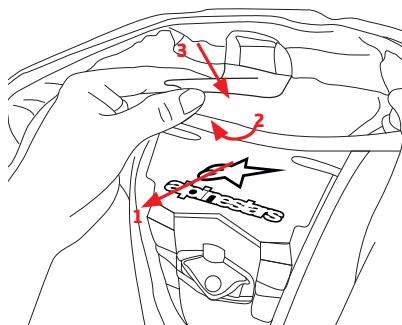
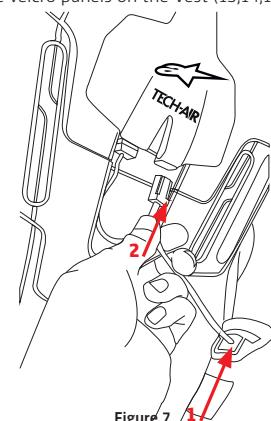

Figure 6
Figure 7 / 1
3. Fold out the second Velcro flap (12) and attach the collar Velcro on the Vest (13) to this new flap, centering it correctly (Figure 6).
4. Proceed to attach the lower shoulder velcro (15) and upper shoulder velcro (14) to the corresponding patches inside the suit lining on both the left and right shoulders.
5. Remove the LED display plug from the storage pocket (17) and plug it into the grey socket (5) (Figure 7).
6. Turn on the Master switch (8). Note that the master switch should remain always on, except during shipping or storage.
8. Use the yellow zips on the suit (10) and the vest (1) to zip the Vest into the suit.